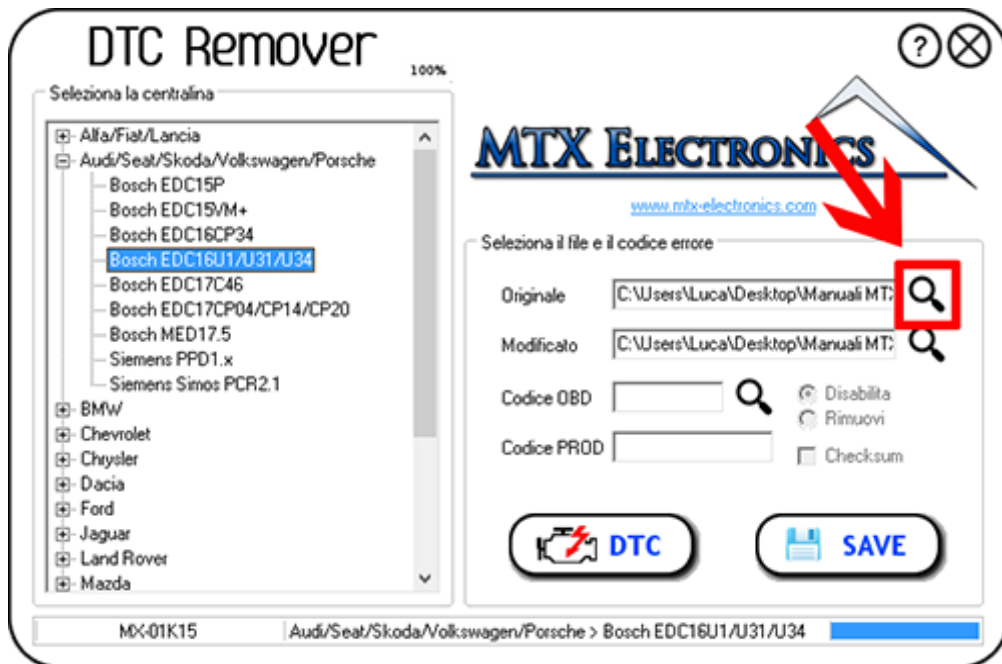

Figure 2
2. Now we upload our original file by clicking on the lens as in Figure 2 ;